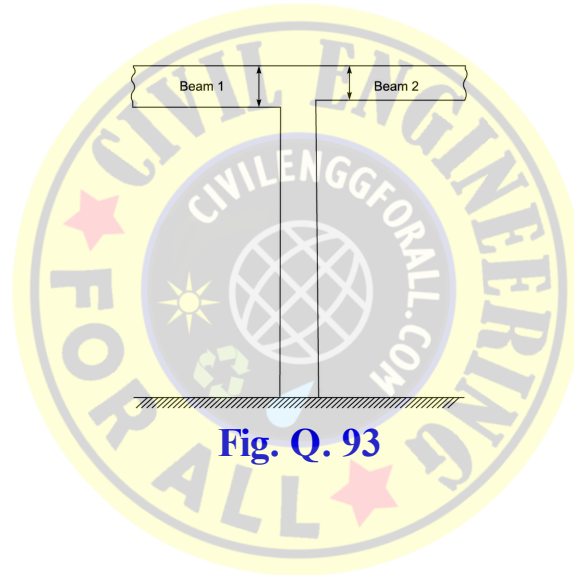

Fig. Q. 93
93. In case of beam and slab construction, if the two beams of different depth meet in the same direction (Ref. Fig. Q. 93), the unsupported length l in that direction is the distance between the floor and